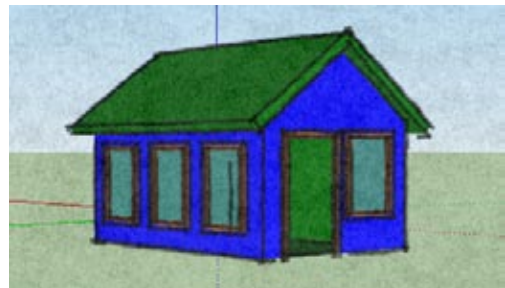

Figure 12-26
- Background settings will remain as they are. For watermark settings, use the style Scribble on Masonite. This will overlay a texture onto the entire SketchUp window, as shown in Figure 12-26.